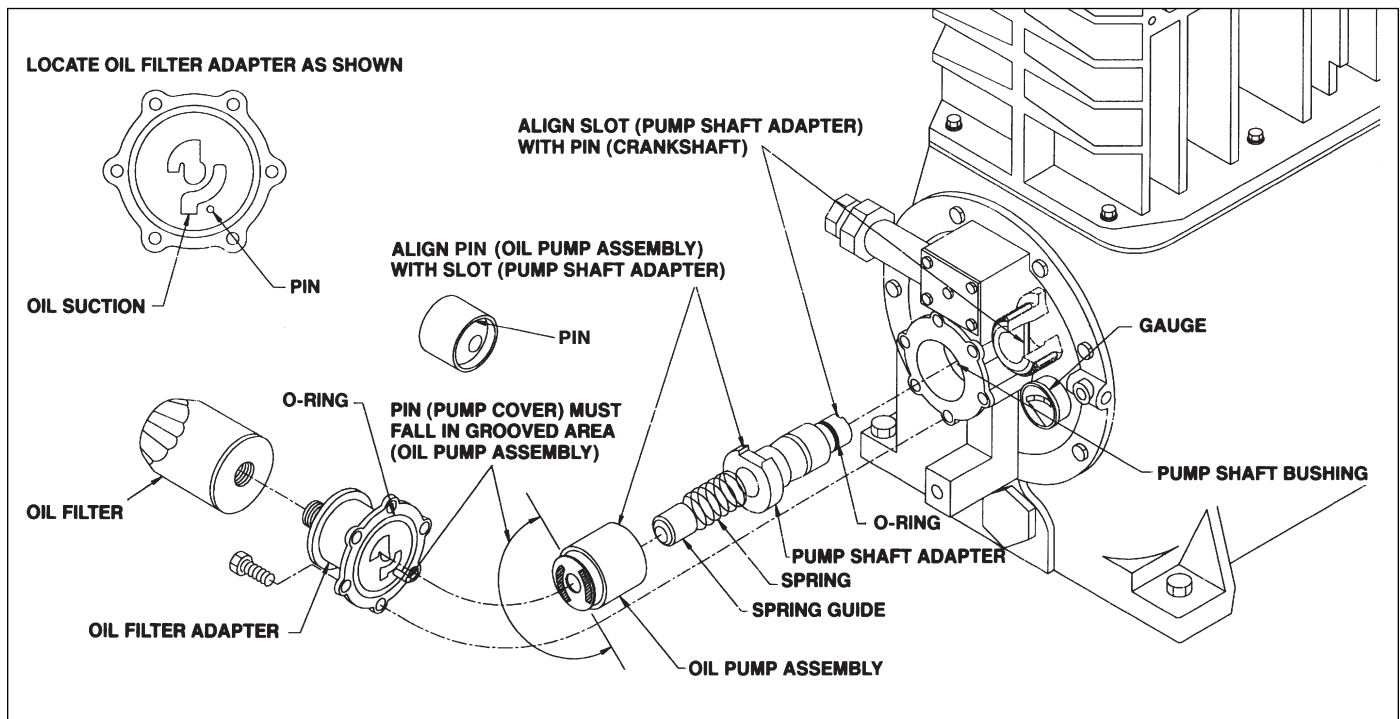

Figure 5.8: Oil pump inspection
1. To check the oil pump, unbolt the oil filter adapter and remove the oil pump, spring guide, spring, and oil pump shaft adapter as shown in figure 5.8.
4. Before reassembling the oil pump mechanism, replace the O-rings in the oil pump cover and on the oil pump adapter shaft (see figure 5.8).
8. Install the pin on the oil filter adapter is in the opening on the oil pump assembly as shown in figure 5.8. When you are sure the pin is properly aligned, install the cover bolts finger tight. If alignment is correct, the pump cover will mount flush to the bearing carrier. If it does not, re-check the pin alignment.